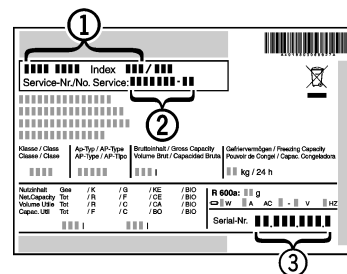

Fig. 6
- ▶ Read the appliance designation Fig. 6 (1), service No. Fig. 6 (2) and serial No. Fig. 6 (3) off the type plate located inside the appliance on the left-hand side.
- ▶ Notify the customer service, specifying the fault, appliance designation Fig. 6 (1), service No. Fig. 6 (2) and serial No. Fig. 6 (3).